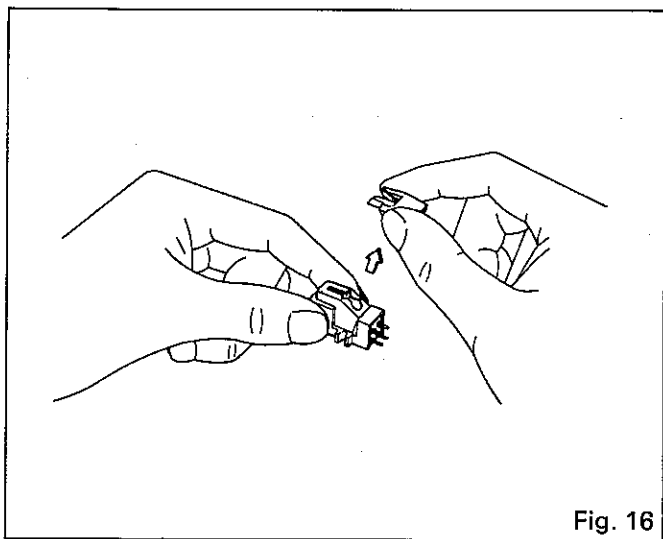

Fig. 16
2. To remove the old stylus, pull out the stylus assembly, holding the cartridge with your other hand. (Fig. 16)